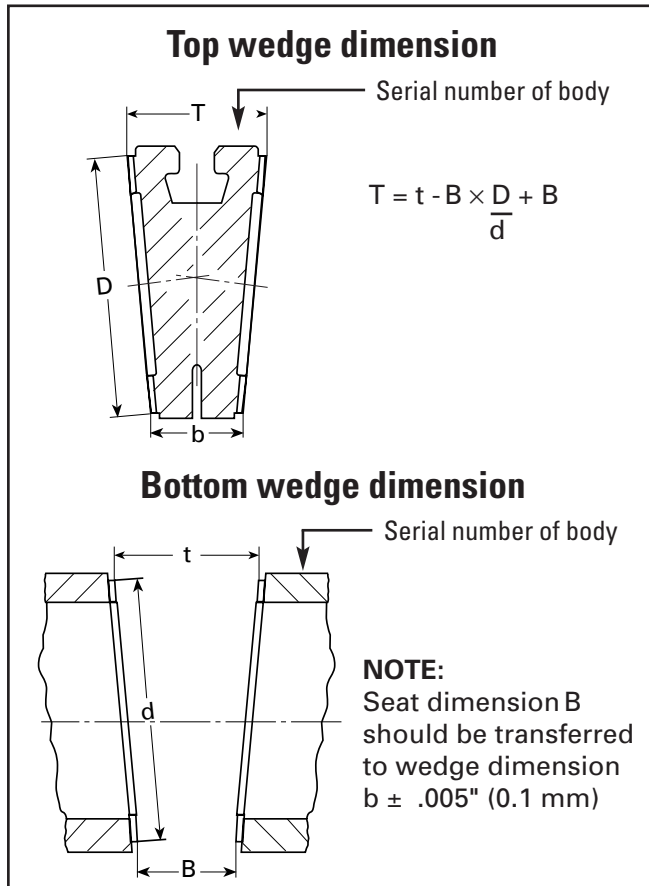
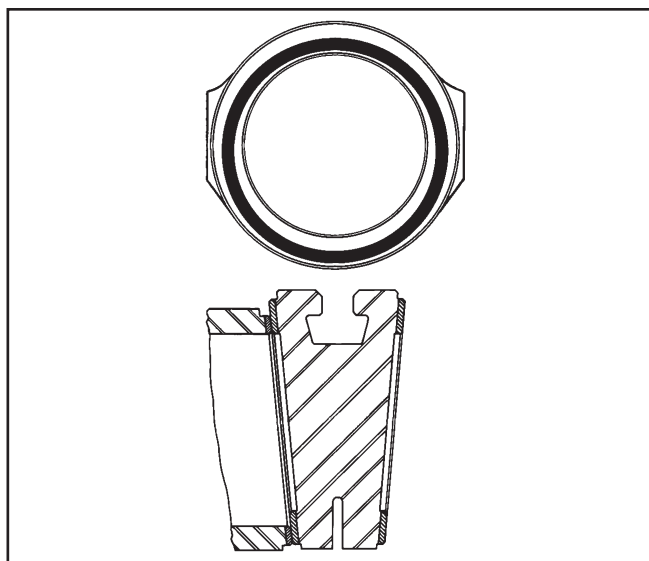

Figure 5.2I Wedge dimensions
Figure 5.2J Full seating circumference
2. If a part cannot be repaired, new parts must be fitted and installed. All spare part wedges are supplied slightly oversized. In order to fit, they must be ground or machined followed by a blueing test to confirm 100% seating contact, and then finally lapped. Refer to *Fig. 5.2I*.
3. In some cases the seat angle may be lost when the seat is ground in the body. Therefore the wedge must be shimmed while the seat is being ground or machined. Shim only as much as required to obtain a full fit over the full circumference of the seating faces. Determine new wedge dimensions per *Fig. 5.2I*. *Figure 5.2J* illustrates a wedge with a full seating circumference, which is essential whenever fitting a wedge.